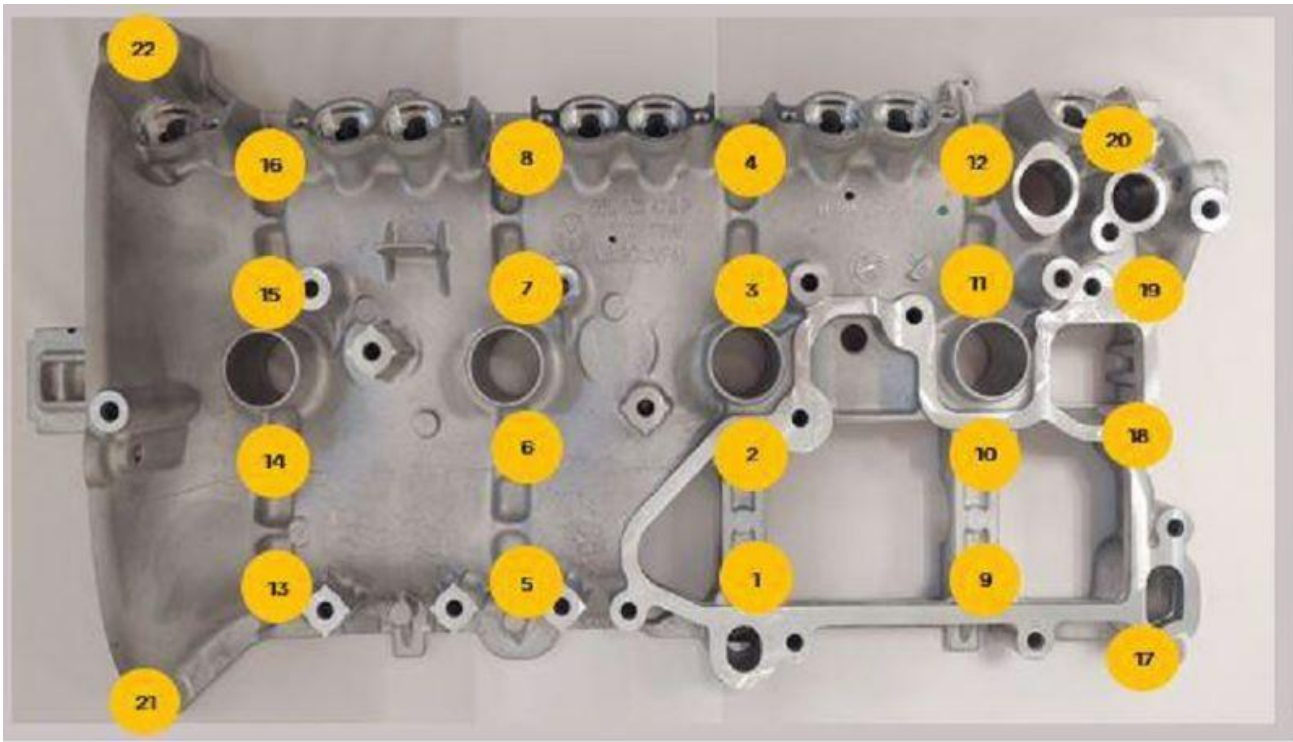

Figure 1: Sequence of checking bolts
- Check that the bolts are tightened to a torque of 14 Nm in the order shown in Figure 1.
- If several bolts are affected, do not loosen them at the same time (i.e. several at once). Please remove, replace, and tighten the bolts one by one in order shown in Figure 1.
- **When replacing the new bolt, it must be tightened to a torque of 8 Nm + 90°. If several bolts are affected, do not loosen them at the same time (i.e. several at once). Please remove, replace, and tighten the bolts one by one in order shown in figure 1.**